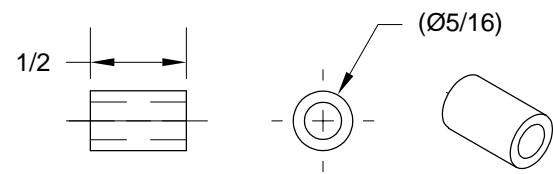

FIGURE 1: MAKING THE SPACERS
Step 1: Make two FF-1005B Spacers from AT6-058X5/16 per the dimensions given in Figure 1.